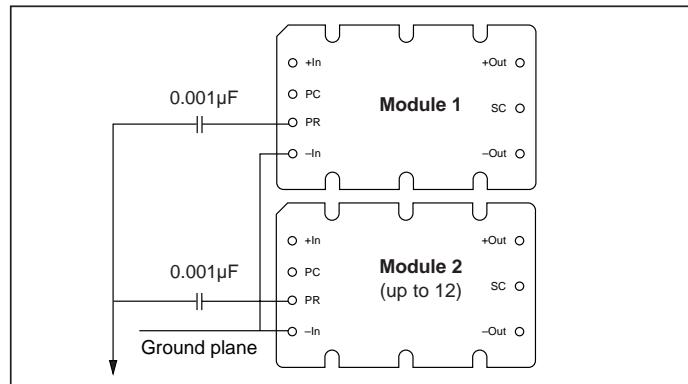

Figure 10—AC coupled single-wire interface.
*AC coupled single-wire interface.* All PR pins are connected to a single communication bus through  $0.001\mu F$  (500V) capacitors. This interface supports current sharing and is fault tolerant except for the communication bus. See Figure 10.